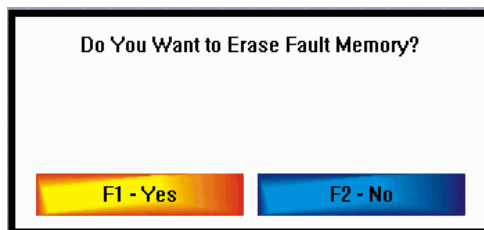
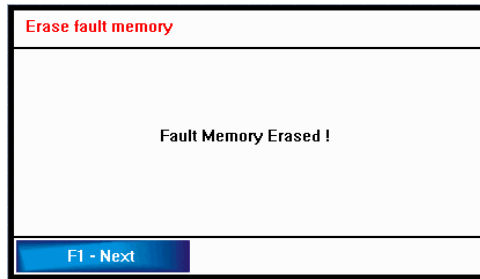

Figure 1.4
Figure 1.5
- An item is selected by double pressing the corresponding line in the list on the screen. The first press selects the item (it will change color to indicate the selection), the second one confirms the selection (see Figure 1.4).
The control is generally performed with the HW function keys F1 – F4. Each dialog screen shows a button with a text and a number of a key that will act as that button. This can be easily understood by looking on the Yes and No icons in Figure 1.4 and Figure 1.5.